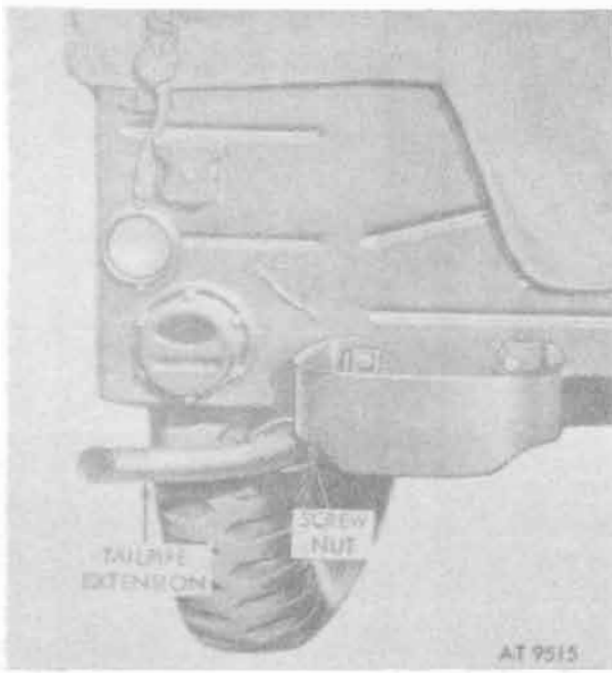

Figure 18-95. Tailpipe extension.
c. Remove and discard tailpipe extension and attaching parts (fig. 18-95).